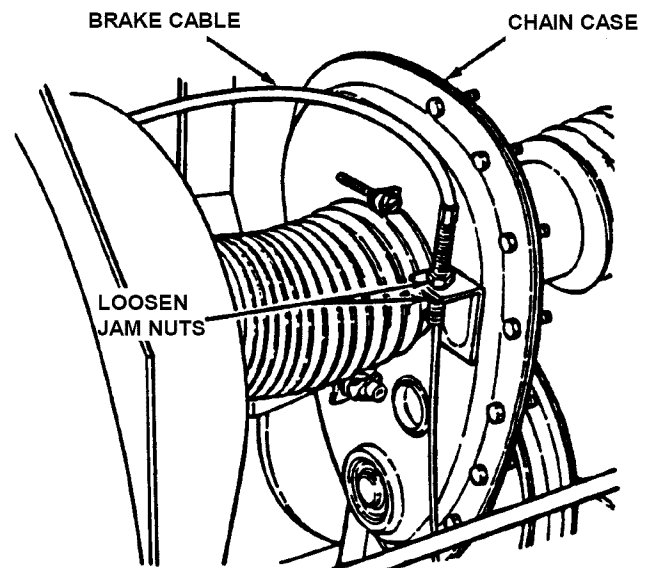

FIGURE 4.10
6. If measurement is less than 1/2" or greater than 3/4", loosen the two jam-nuts. See Figure 4.10. Hold the clutch/brake cable to the chain case bracket.